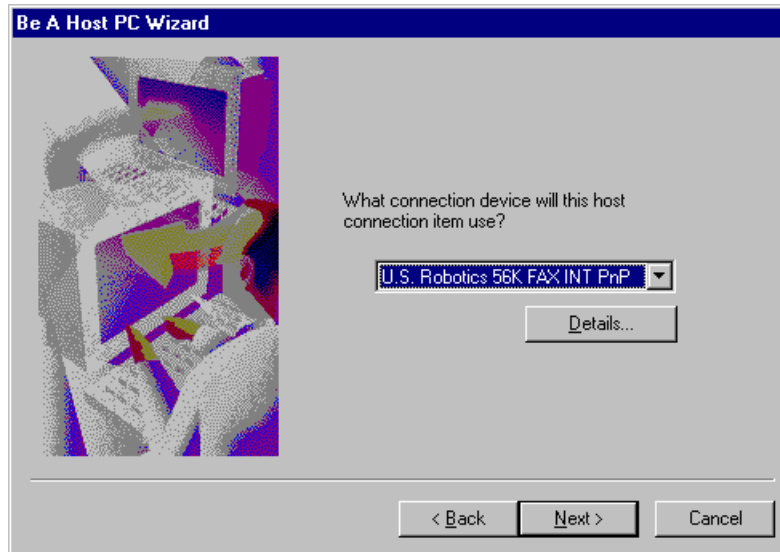

Figure 5-3. Connection Device GUI
- d. Click the Next button to bring up the connection device GUI (Figure 5-3). The modem installed in the SEM workstation should be highlighted. Accept this default by clicking on the Next button.